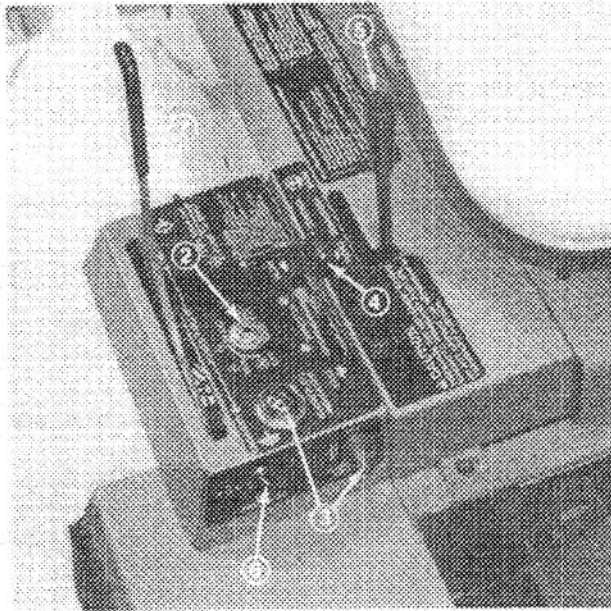

Figure 13
Low Oil Pressure Light/Buzzer (Fig. 13) — If oil pressure falls below a safe level, the buzzer sounds and the light glows. Stop engine and repair before resuming operation.
PTO Lever (Fig. 13) — The PTO lever has two positions: ENGAGE and DISENGAGE. Push PTO lever fully forward to ENGAGE position to start the cutting unit blades. Pull lever rearward to DISENGAGE position to stop the blades. The only time PTO lever should be in the ENGAGE position is when cutting unit is on the turf and grass is actually being mowed.
Ignition Switch (Fig. 13) — The ignition switch, which is used to start and stop the engine, has three positions: OFF, RUN and START. Rotate key clockwise — START position — to engage starter mower. Release key when engine starts. The key will move automatically to the ON position. To shut engine off, rotate key counterclockwise to the OFF position.
Glow Plug Switch and Indicator (Fig. 13) — Use to preheat engine cylinders before and during starting procedures. Push switch lever upward and hold while watching indicator. Indicator will glow red when sufficiently heated. Length of time necessary to preheat cylinders should be determined by atmospheric temperature; refer to Starting/Stopping Engine, page 14.
Throttle (Fig. 13) — Throttle is used to operate engine at various speeds. Moving throttle forward increases engine speed — FAST; rearward decreases engine speed — SLOW. The throttle controls the speed of the cutter blades and, in conjunction with traction pedal, controls ground speed of the engine.
Hydraulic Lift Lever (Fig. 13) — The hydraulic lift lever has three positions: FLOAT, TRANSPORT and RAISE. To lower cutting unit to the ground, move lift lever forward into notch in seat cover — FLOAT. The FLOAT position is used for mowing and when machine is not in operation. To raise cutting unit, pull lift lever rearward to the RAISE position. After cutting unit is raised, allow lift lever to move to the TRANSPORT position. Cutting unit must be raised when driving from one work area to another.
1. Ensure parking brake is set, PTO lever is in OFF position and lift lever is in TRANSPORT or FLOAT position (Fig. 13). Remove foot from traction pedal and insure it is in neutral.
2. Move throttle control (Fig. 13) to full FAST position.
3. Turn key in key switch to START position (Fig. 13). Release key immediately when engine starts and allow it to return to RUN position. Move throttle control to SLOW position.
4. When temperature is below 0°C (32°F), push glow plug switch to ON position (Fig. 13) and hold for suggested interval. Continue to hold and turn key in key switch to START position. Release glow plug switch after engine starts and allow key to return to RUN position. Move throttle control to SLOW position.